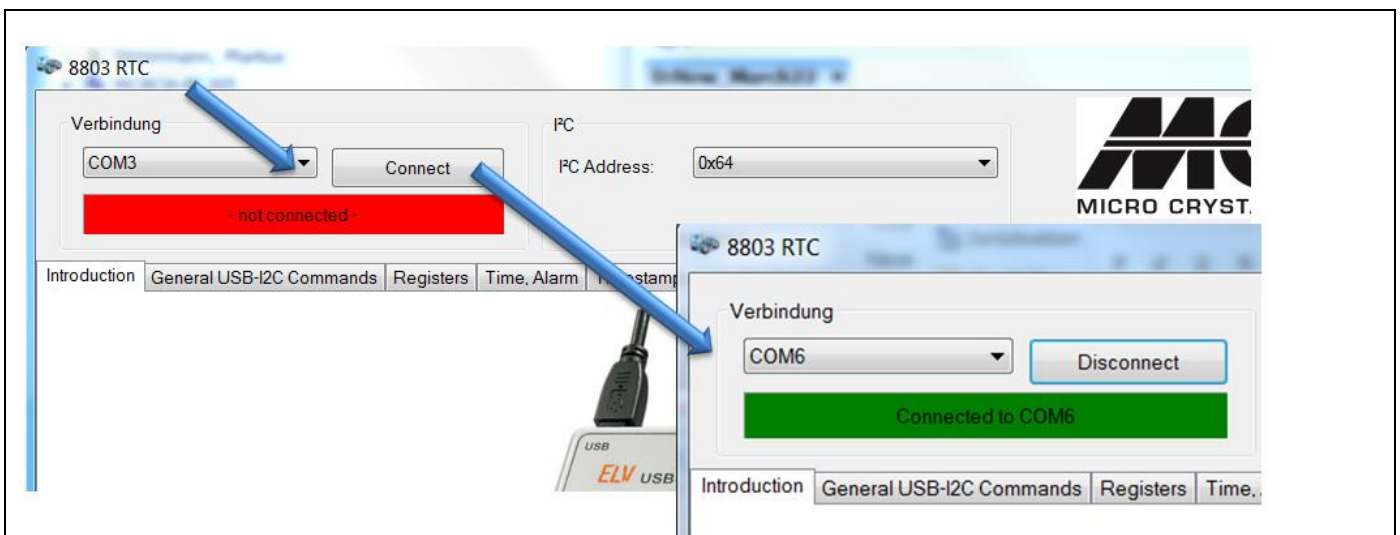

Fig. 4. Start window of the GUI
- The start window will pop up (Fig. 4)